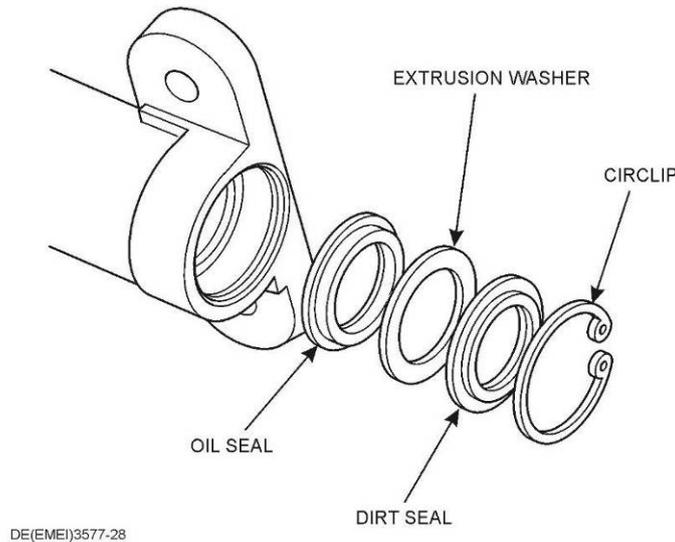

Figure 294 Installation of the Sector Shaft Oil Seals
- c.** Install a new oil seal, with the lip side in, into the sector shaft bore. Install the extrusion washer and a new dirt seal, with the lip side out. Install a new circlip to retain the seals in position (Figure 294).